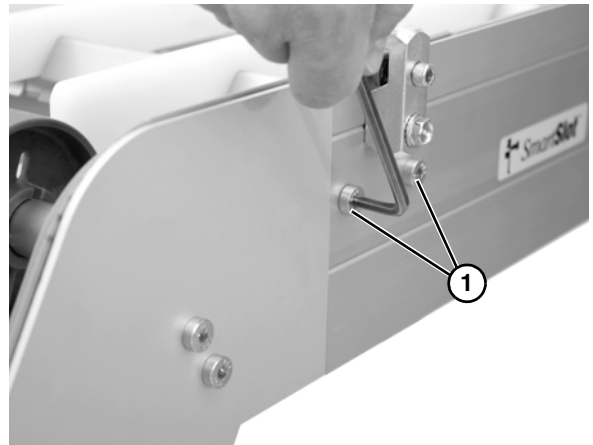

Figure 78
2. Remove two socket head screws (**Figure 78, item 1**). Repeat on other side.